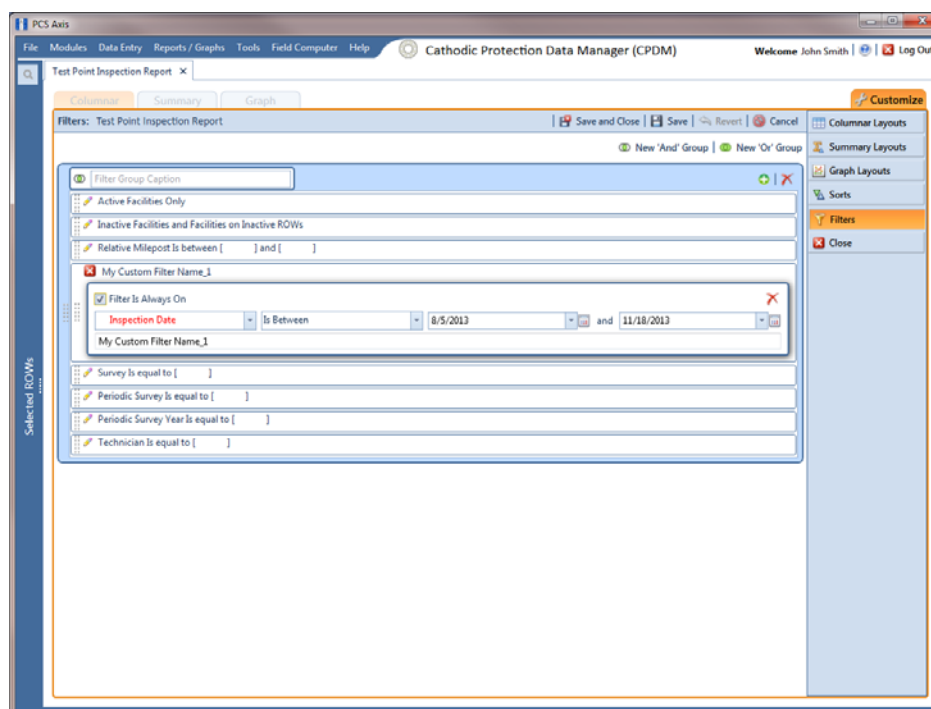

Figure 15-47. Inspection Date Is Between
- 4 Click the edit icon  to display a filter's property settings. In the following example, property settings for *Inspection Date Is between* are visible (Figure 15-47, page 632).